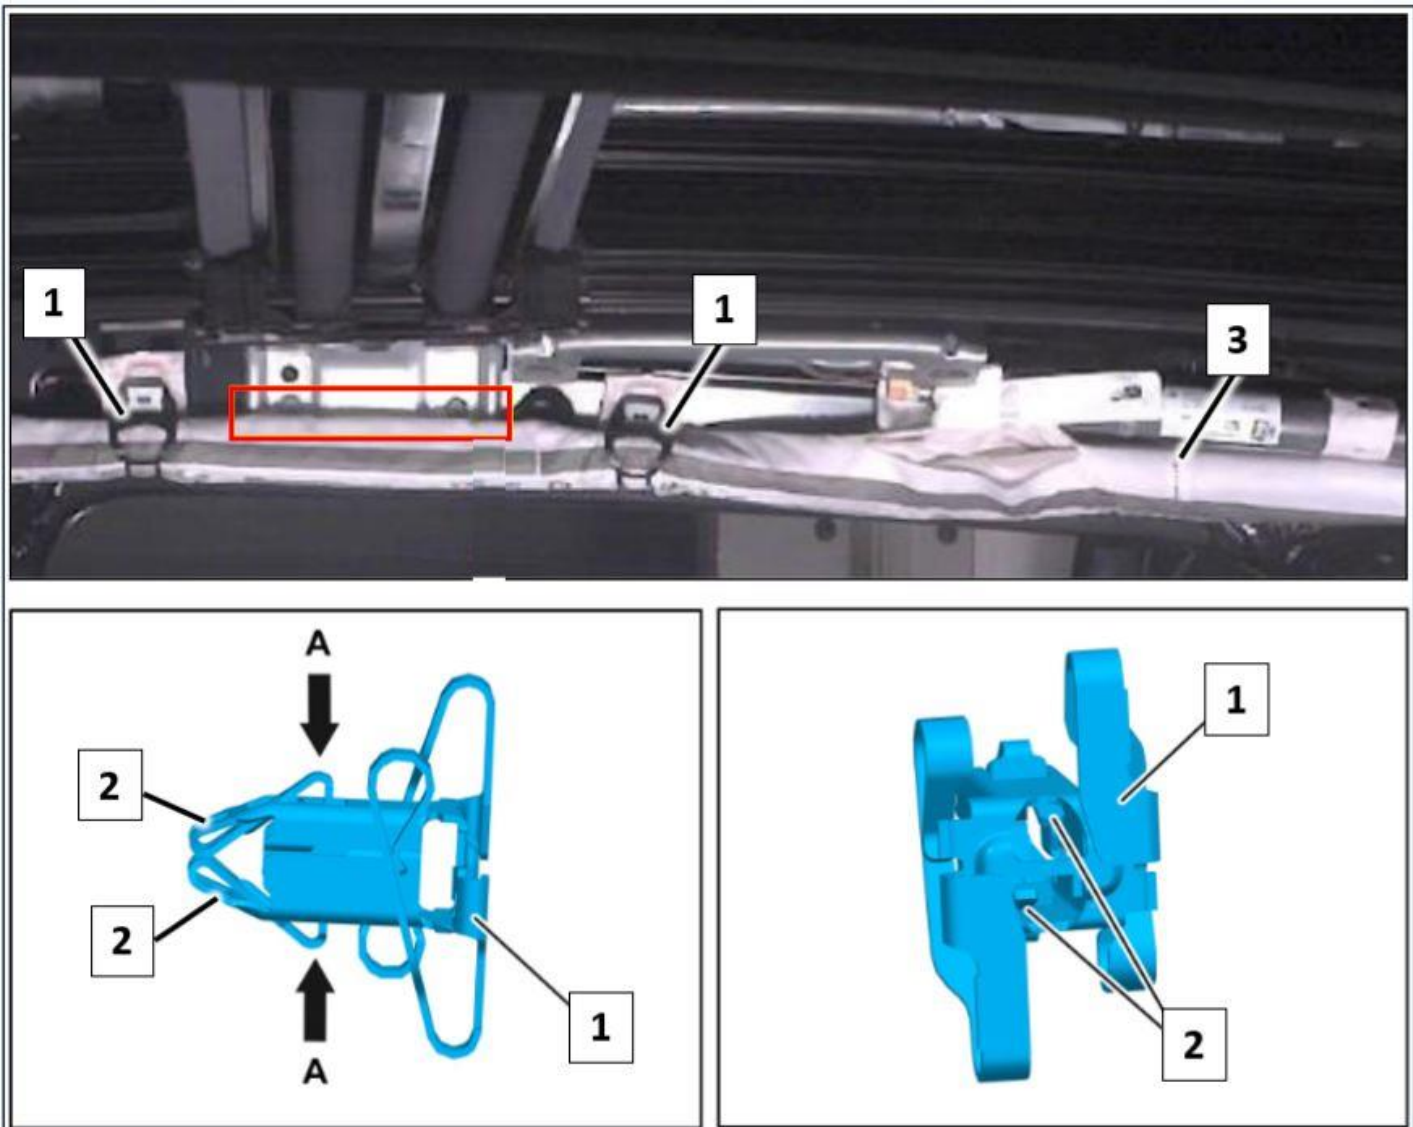

Figure 1
3. Loosen the clips (**Figure 1, 1**) on the left and right window airbag (**Figure 1, 3**).
i To do so, press together tabs (**Figure 1, 2 & A**) using suitable needle nose pliers, and remove clips (**Figure 1, 1**).
NOTE: A relatively large amount of force will be required to remove the clips (**Figure 1, 1**).
6. Replace damaged window airbag(s) (**Figure 1 and 2, 3**).